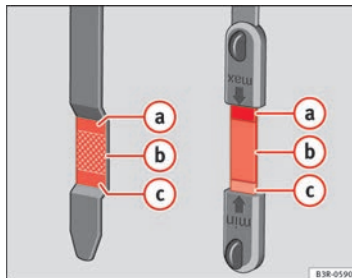

Fig. 166 Markings on oil dipstick
- Then pull it out once more and check the oil level ⇒ page 226, fig. 166. If the oil level is too low, add more engine oil ⇒ page 227.